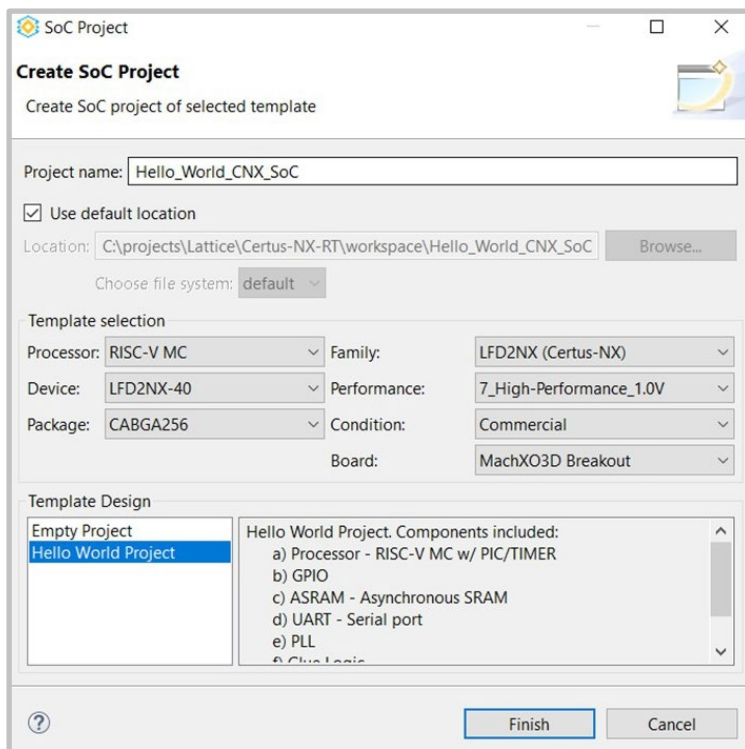

Figure 6: Hello World Project Setup
- Specify the project name as **Hello_World_CNX_SoC** and click **Finish**, see **Figure 6**.